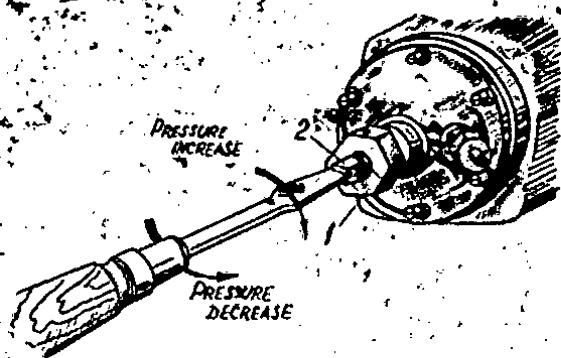

Fig. 16. Fuel pressure adjustment.
- b) turn the adjusting screw clockwise to increase the fuel pressure and counter-clockwise to decrease it. (Fig.16).